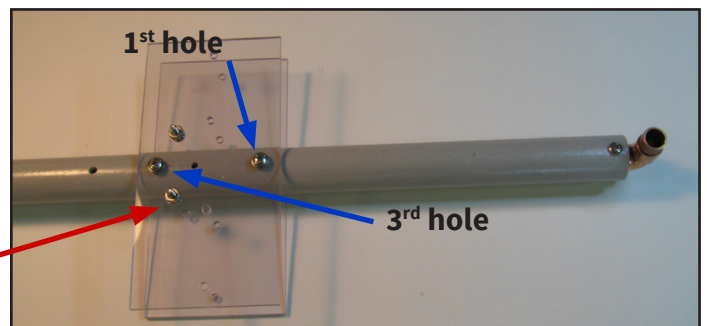

Fig. 39
- ☐ Select two (2) 10-24 x 2" Machine screws and two (2) No. 10 SS Flat washers. Place one washer on each screw. Then insert the screws and washers through the Element Mounting Plate that was prepared during the previous step. Orient the Element Mounting Plate as shown in Fig. 39. Then insert the screws in the Boom End Assembly through the 1st and 3rd holes as indicated in Fig. 39.